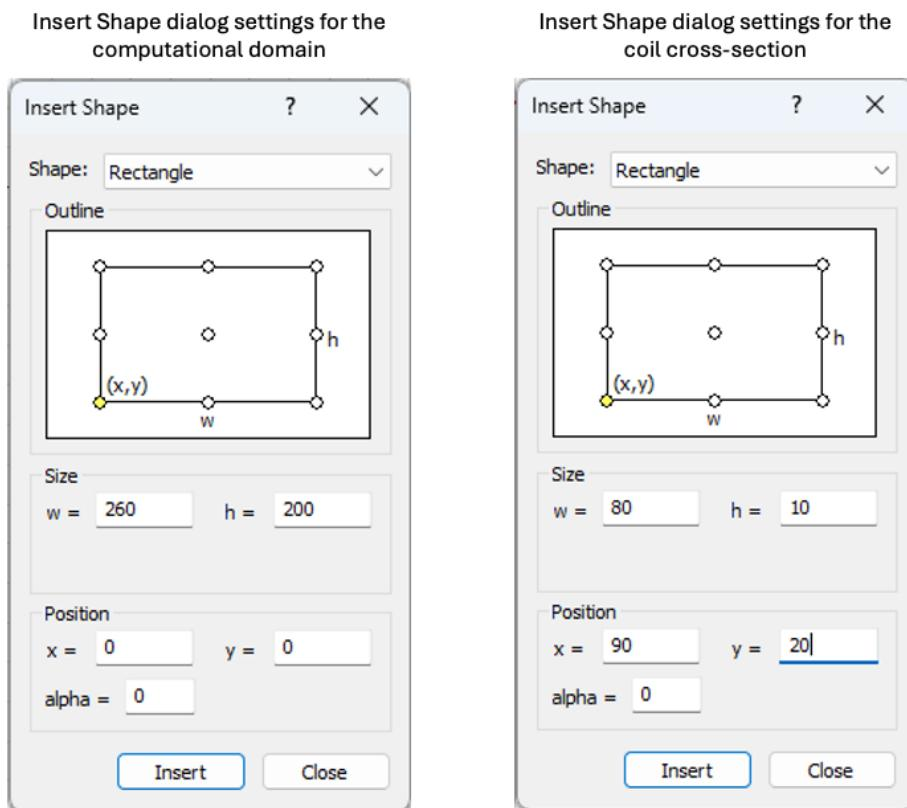

Figure 5: Insert Shape dialog box settings for, LEFT: the computational domain and, RIGHT: the solenoid's cross-section.
- Enter the values shown in Figure 5 (LEFT) into the dialog box that appears.
- Enter the values shown in Figure 5 (RIGHT) into the dialog box that appears... check that the bottom-left point is selected to be the origin, "(x,y)".